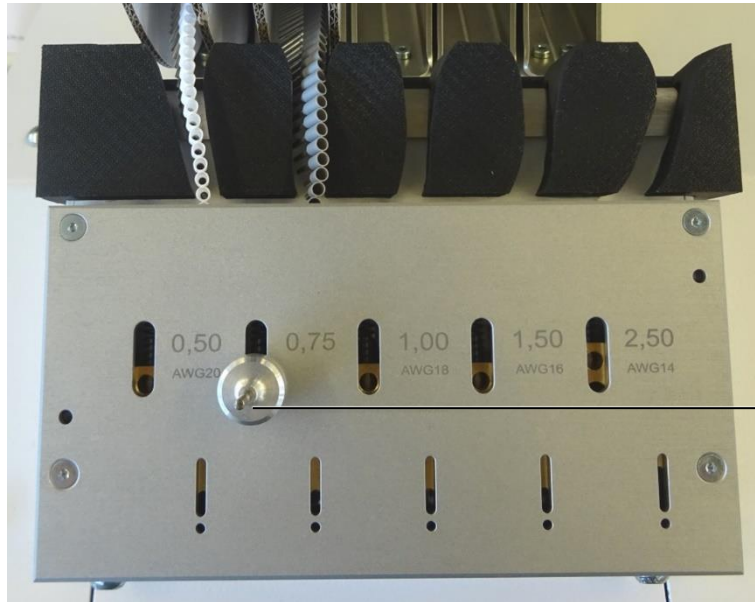

Fig. 10: Fixing pin at the top
- Place the fixing pin with the large diameter in the upper opening (fig. 10, item 1) of the transport unit.